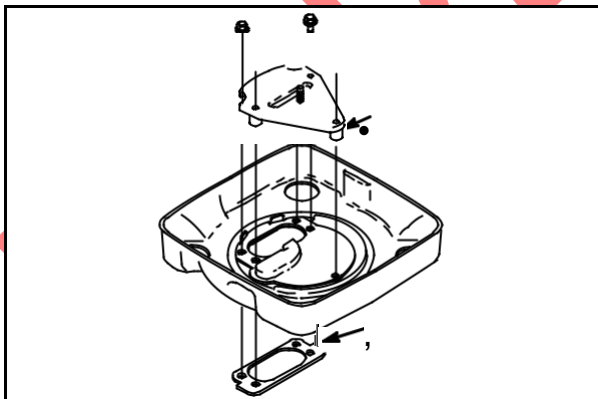

Fig. 42
Install new air cleaner mounting gasket (2) with adhesive side toward air cleaner base, **Fig. 42**.